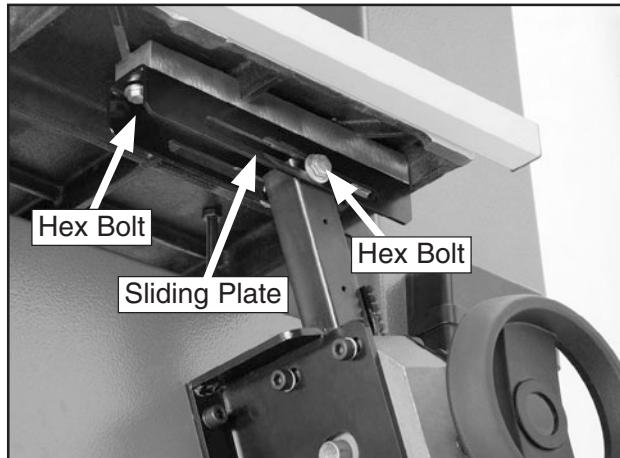

Figure 29. Sliding plate secured to table.
6. Raise the sliding plate up and secure it to the bottom of the table with the hex bolts and flat washers, as shown in **Figure 29**.